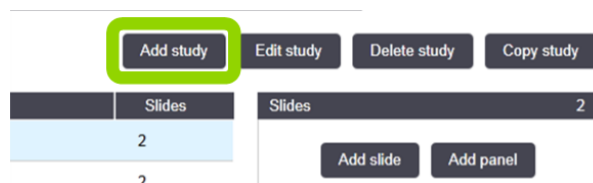

Figure 18: Add study button
2. Click the **Add study** button (see Figure 18).